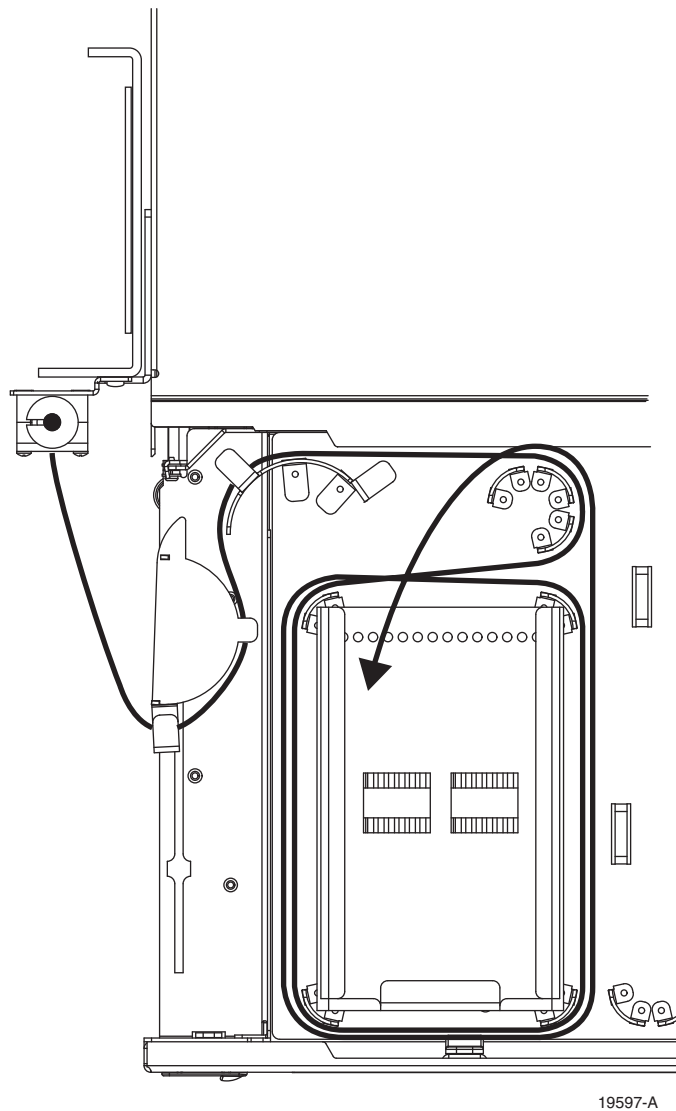

Figure 21. Routing Within Splice Tray
6. Route the cables within the splice tray as shown in Figure 21.